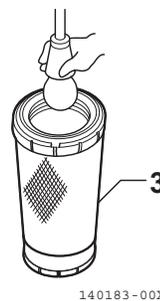

Fig. 8-48
6. After cleaning, illuminate the element (Fig. 8-48, 3) from inside with a light bulb and check it. If there are any small holes or thin areas, replace the element with a new one.
8. Install the cleaned elements (**Fig. 8-48, 3**) to the air cleaner case.